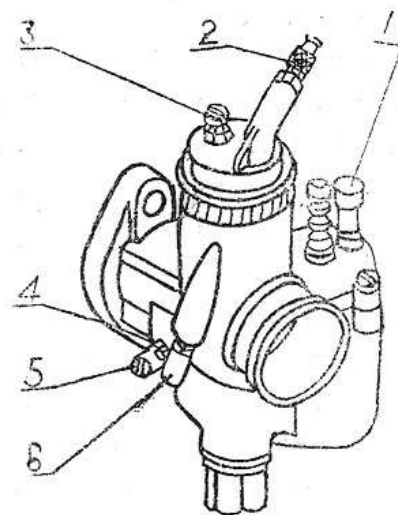

Fig.11
4.5.1.3 Screw in the idling adjusting screw (Item 6 in Fig 11) clockwise to raise the throttle valve , increase slightly the engine RPM so that one cylinder can operate continuously with throttle at minimum operating state . Remove the high tension cable from the other cylinder and ground it .
4.5.1.7 Tighten lock nuts (Item 4 in Fig.11) of the two screws .
Turn inwards the throttle twist grip for about a quarter stoke. Alternately remove high tension cable from cylinders , and listen to the operation sound of the other cylinder . Remove rubber cover from carburetter upper cover of lower speed cylinder , adjust the steel cable connector (Item 2 in Fig.11) .